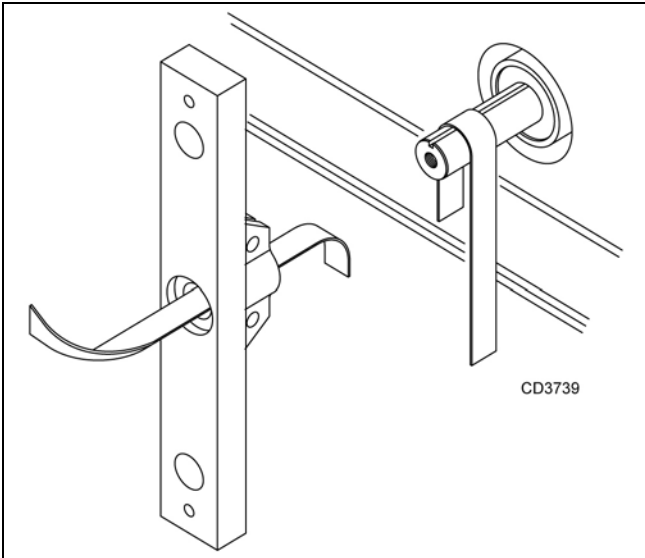

Figure 22
- Using emery cloth (220 or finer), remove surface rust, Loctite® and foreign material from hub, splined gearbox, vertical shaft, and crossbar as shown in Figure 22.